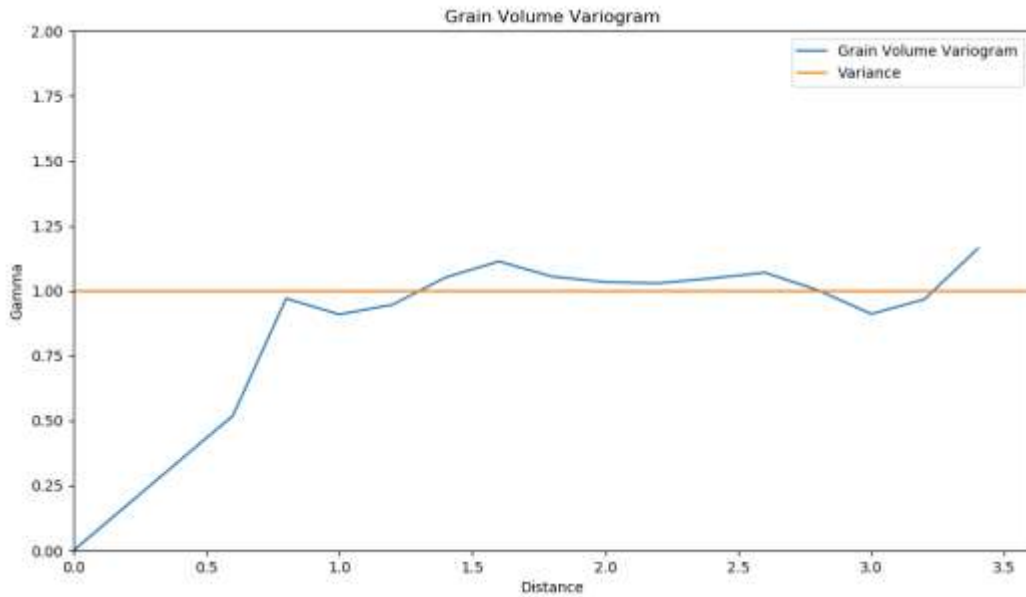

Figure 2- Expected code output: Variogram of the grain pack
An example of the expected output of the code is given in Figure (2). The blue line represents the variogram and the red line represents the variance (sill) with a constant value of one. When the variogram is lower than the variance, there are positive correlations between the different grains and when the variogram is higher than the variance, there are negative correlations between the grains. Figure 2 shows that while there is a positive correlation at low distances, due to smaller grains in close proximity with each other, the variogram begins approaching the variance value